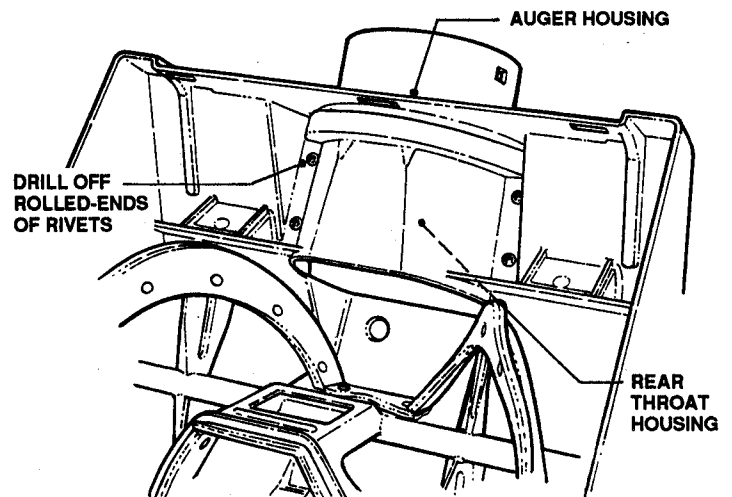

FIGURE 7.13
- (3) Swing Cover up and over the Chute Mounting Ring and out of the way.
(4) Remove Rear Throat Housing as follows:
a. Drill out rivets (use a 5/16" drill to just "touch" the rolled-ends of the rivets - this will separate the caps, allowing the rivets to be removed). See Figure 7.13.